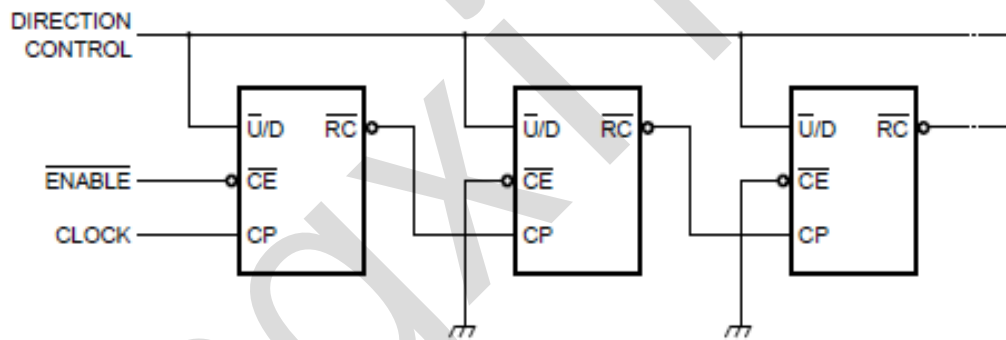
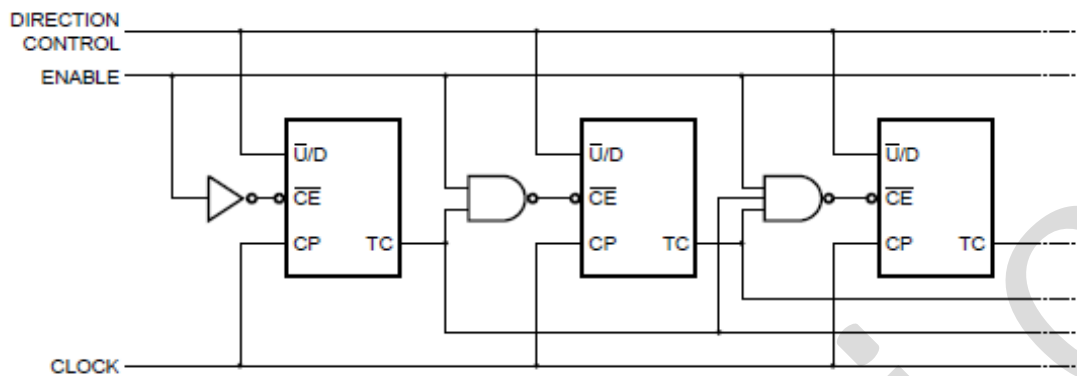

Figure 5. N-stage ripple counter using ripple clock
Figure 7. Synchronous n-stage counter with parallel gated carry/borrow
Overflow/underflow indications are provided by two types of outputs, the terminal count (TC) and ripple clock ( $\overline{RC}$ ). The TC output is normally LOW and goes HIGH when a circuit reaches zero in the count-down mode or reaches “9” in the count-up-mode. The TC output will remain HIGH until a state change occurs, either by counting or presetting, or until  $\overline{U}/\overline{D}$  is changed. Do not use the TC output as a clock signal because it is subject to decoding spikes. The TC signal is used internally to enable the  $\overline{RC}$  output. When TC is HIGH and  $\overline{CE}$  is LOW, the  $\overline{RC}$  output follows the clock pulse (CP). This feature simplifies the design of multistage counters as shown in Figure 5 and 6.
In Figure 5, each  $\overline{RC}$  output is used as the clock input to the next higher stage. It is only necessary to inhibit the first stage to prevent counting in all stages, since a HIGH on  $\overline{CE}$  inhibits the  $\overline{RC}$  output pulse as indicated in the function table. The timing skew between state changes in the first and last stages is represented by the cumulative delay of the clock as it ripples through the preceding stages. This can be a disadvantage of this configuration in some applications.
In Figure.7, the configuration shown avoids ripple delays and their associated restrictions. Combining the TC signals from all the preceding stages forms the  $\overline{CE}$  input for a given stage. An enable must be included in each carry gate in order to inhibit counting. The TC output of a given stage is not affected by its own  $\overline{CE}$  signal therefore the simple inhibit scheme of Figure 5 and 6 does not apply.